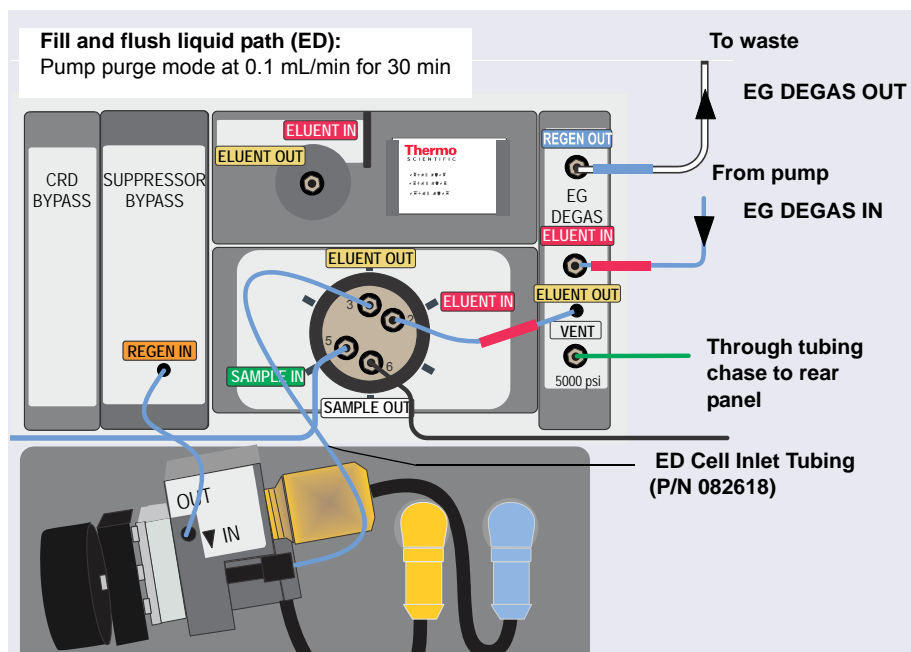

Figure 4-4. Flow Schematic for Filling and Flushing the ED Liquid Path
2. Connect the cell inlet line as shown in Figure 4-4. Use the long 10-32 fitting bolt (P/N AAA-057227) and split-cone ferrule (P/N 062978) for the cell IN connection.